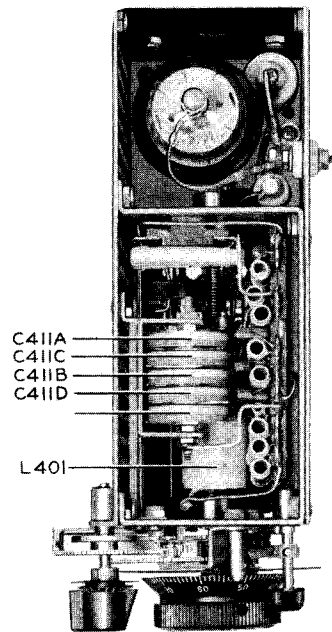
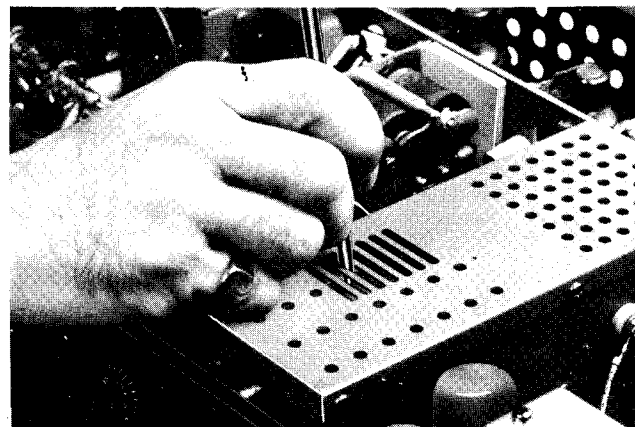

Figure 5-4. Type O-16/ART-13 Low Frequency Oscillator
Figure 5-5. Low Frequency Oscillator Unit Adjustment
a. TYPE O-16/ART-13 LF OSCILLATOR ALIGNMENT. (Refer to figure 5-4. and figure 5-5.)
(1) If low-frequency oscillator circuit components have been damaged or replaced, the grid circuit may require realignment. For realignment of the circuit the following procedure should be followed: